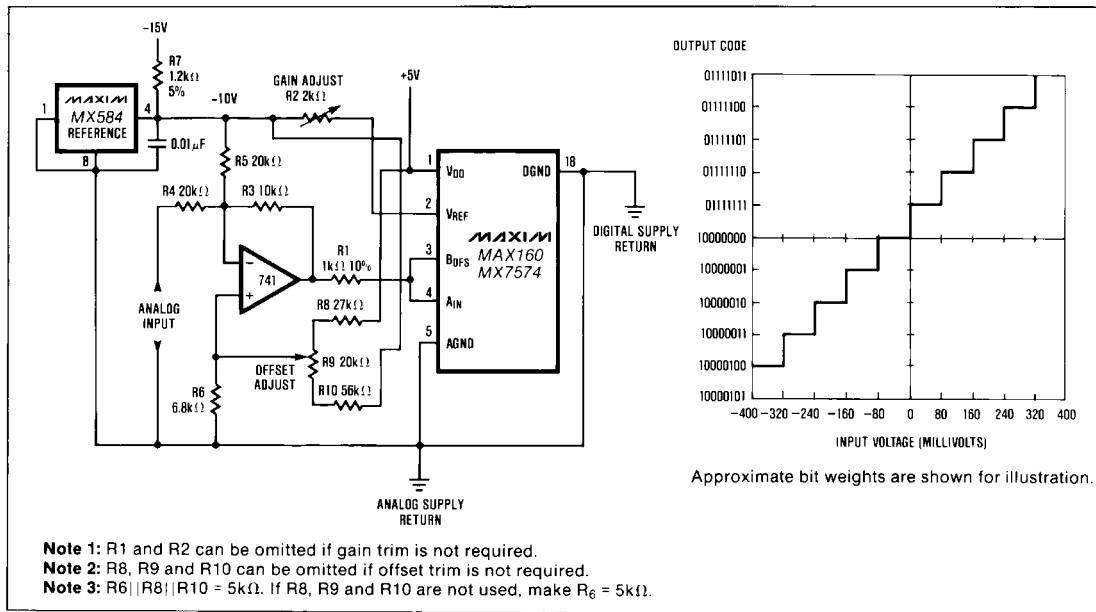

Figure 12. Bipolar (-10V to +10V) Operation and Nominal Transfer Characteristic Around Major Carry (Output Code is Complimentary Offset Binary)
Offset error in the transfer function can be trimmed by offsetting the buffer that drives the  $A_{IN}$  input. This can be achieved either by summing a cancellation current into the amplifier's summing junction, or by tapping a voltage divider which sits between  $V_{DD}$  and  $V_{REF}$  and applying the tap voltage to the amplifier's non-inverting input. An example of the latter method can be seen in Figure 12.
If offset trimming is required, it must be done in the signal conditioning circuitry used to drive the  $A_{IN}$  input in Figure 10. See also the offset trim example shown in Figure 12.
Figure 11 illustrates the analog circuitry and transfer function for bipolar operation. The output coding is offset binary. Offset correction can be performed at the buffer amplifier used to drive the signal input terminals of the MAX160/MX7574. See Figure 12 for an example of how offset trimming can be performed. Calibration is as follows:
Figure 12 shows the analog connections for offset binary operation. The typical transfer characteristic is also shown. In this bipolar mode, the input signal (-10 to +10V) is conditioned and the A/D basically operates in unipolar mode (0 to +10V). Calibration is as follows (offset adjusted before gain):
1. Apply 0V to the analog input shown in Figure 12.
1. Apply -9.922V across the analog input terminals shown in Figure 12.